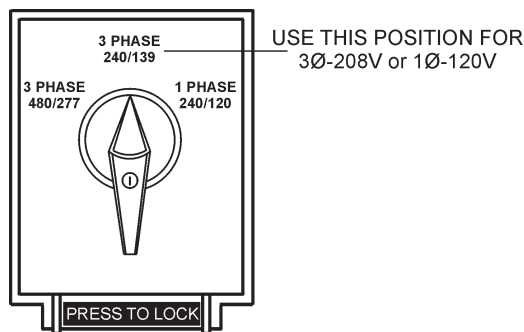

Figure 21. Voltage Selector Switch 3Ø-240/139V Position
1. Place the voltage selector switch in the 3Ø 240/139 position as shown in Figure 21.